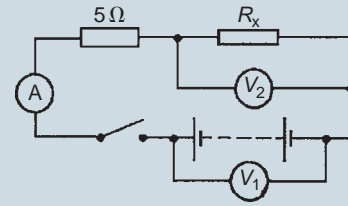

Figure 7.10
- When the switch in the circuit in Fig. 7.10 is closed the reading on voltmeter 1 is 30 V and that on voltmeter 2 is 10 V. Determine the reading on the ammeter and the value of resistor R_x